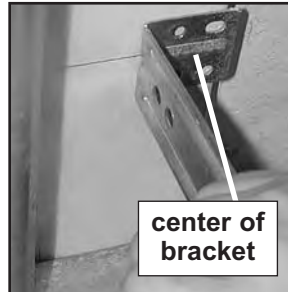

FIG. 4-2 Mounting brackets.
- Locate top of bracket on your mark (Fig. 4-2).
- Fasten each with 2 screws (Fig. 4-2).